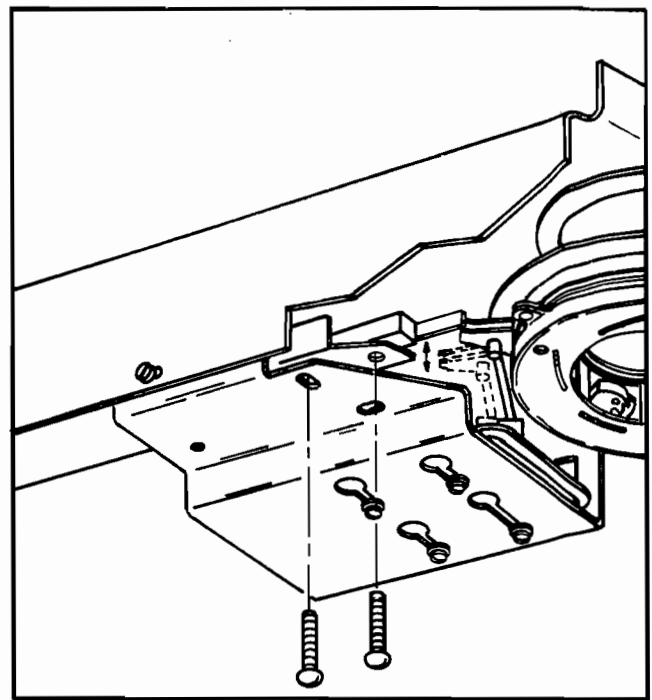

Figure 15 (Reed Electromech)
1. Be sure the mechanism is in the "at rest" position. (See Figure 15.)